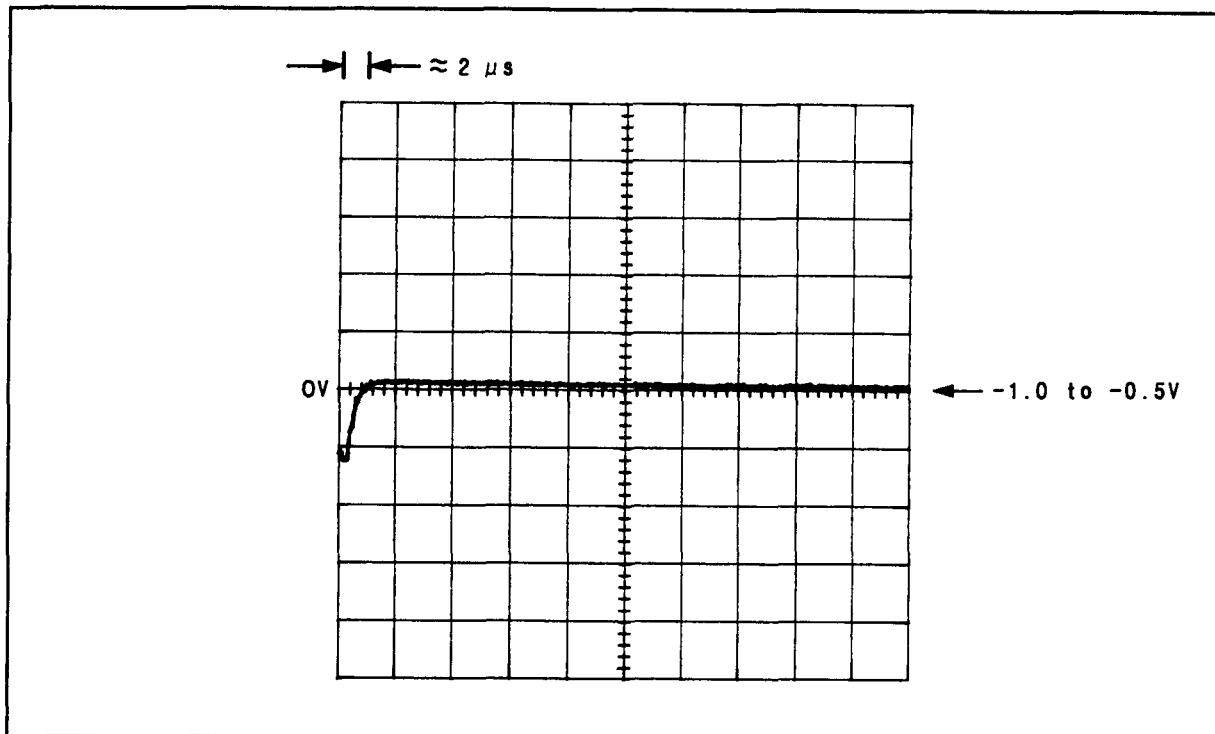

Figure 8F-32a. Waveform for  $\sqrt{1}$  Step 4
4. Check the voltage at the collector of Q5 with a high-impedance, dc coupled oscilloscope. The waveform should be a square wave with an amplitude of approximately 1.6 Vpp and a period of approximately 2.8 ms, but more importantly, observe the falling edge. Set the oscilloscope to trigger on a negative slope with a sweep time of 2  $\mu$ s per division. The waveform will be intermittently stable and very faint but the falling edge should be as in Figure 8F-32a.